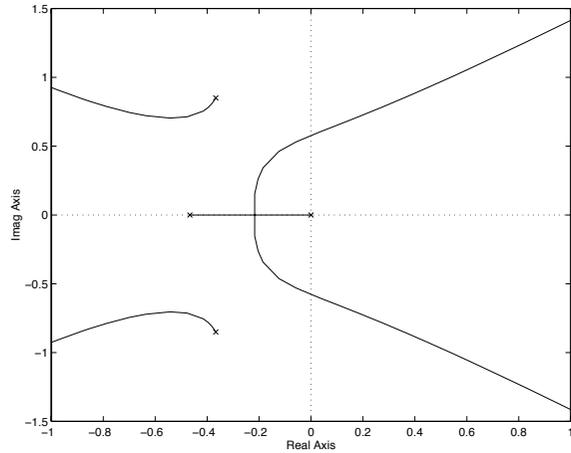

Figure 3.21b
b) The root locus with respect to  $K_I$  is shown in Figure 3.21b. For small  $K_I$  the response of the closed loop system is dominated by the poles on the real axis close to the origin. When  $K_I$  increases the poles become complex and move towards the imaginary axis, that is, the closed loop system becomes more oscillatory. Finally, for  $K_I \approx 1.5$ , the poles cross the imaginary axis, that is, the closed loop system becomes unstable. As can be seen in Problem 3.4 a small value of  $K_I$ , that is, a pole close to the origin, gives a slow step response. When  $K_I$  increases the dominating